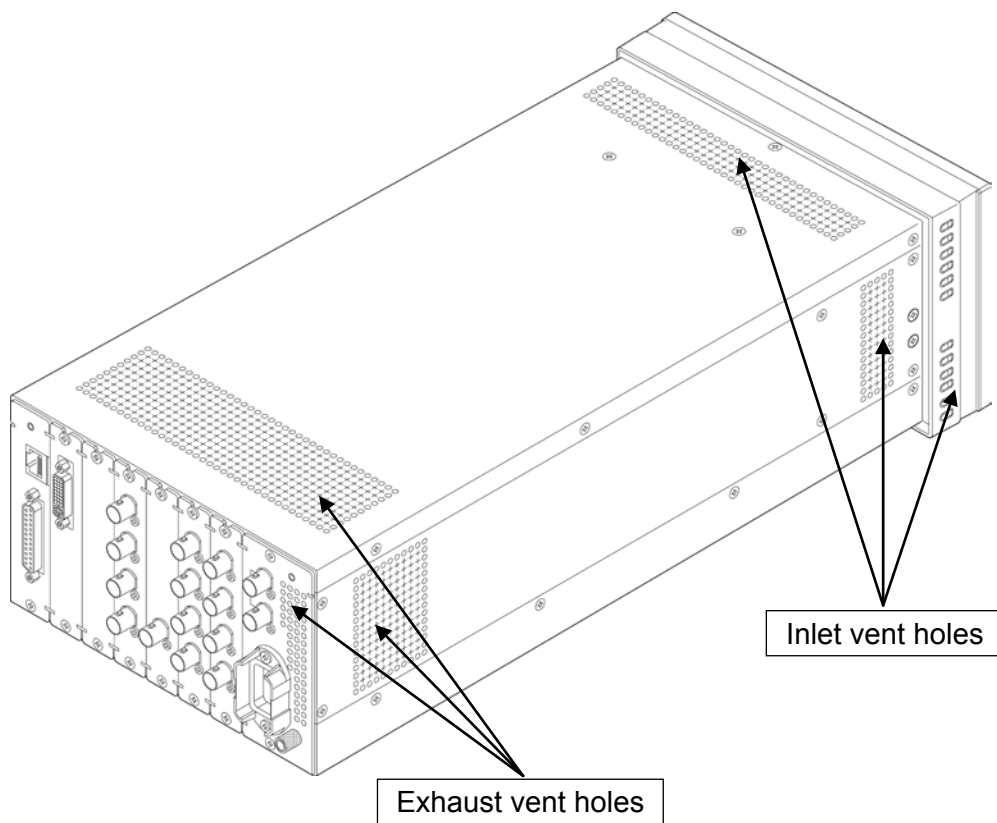

Figure 5-17 Vent holes
As shown in Figure 5-17, there are vent holes on the top cover and side and rear panels of the LV 5800(A). Do not install the LV 5800(A) in a way that blocks these vent holes. Otherwise, malfunction, smoke, or fire may result.